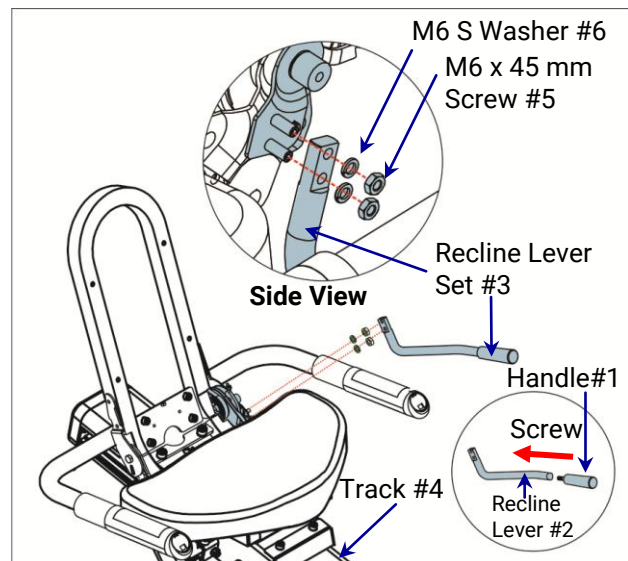

Fig 2.5-12
- 2) Attach the **Recline Lever Set #3** to the left side of the **Track #4** using (2) **M6 x 45 mm Screw #5** and (2) **M6 S Washer #6** with the provided 6mm Allen Wrench and M10/M10 Combination Wrench. (Fig 2.5-12)